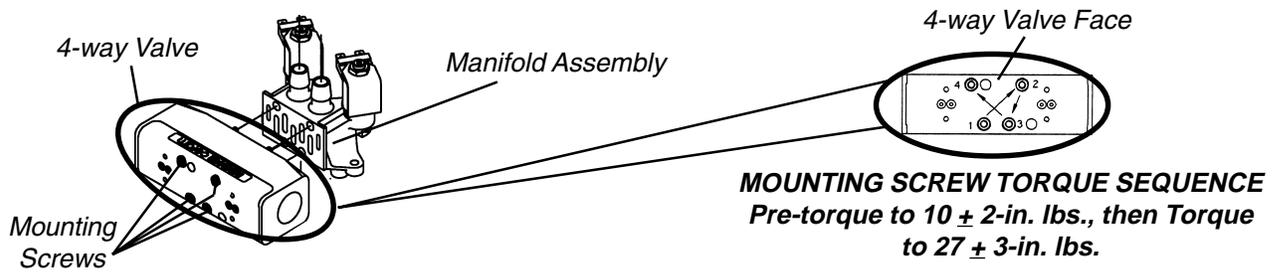

FIGURE 1 - REPLACING 4-WAY VALVE
6. Tighten mounting screws in the sequence described below (**FIGURE 1**).